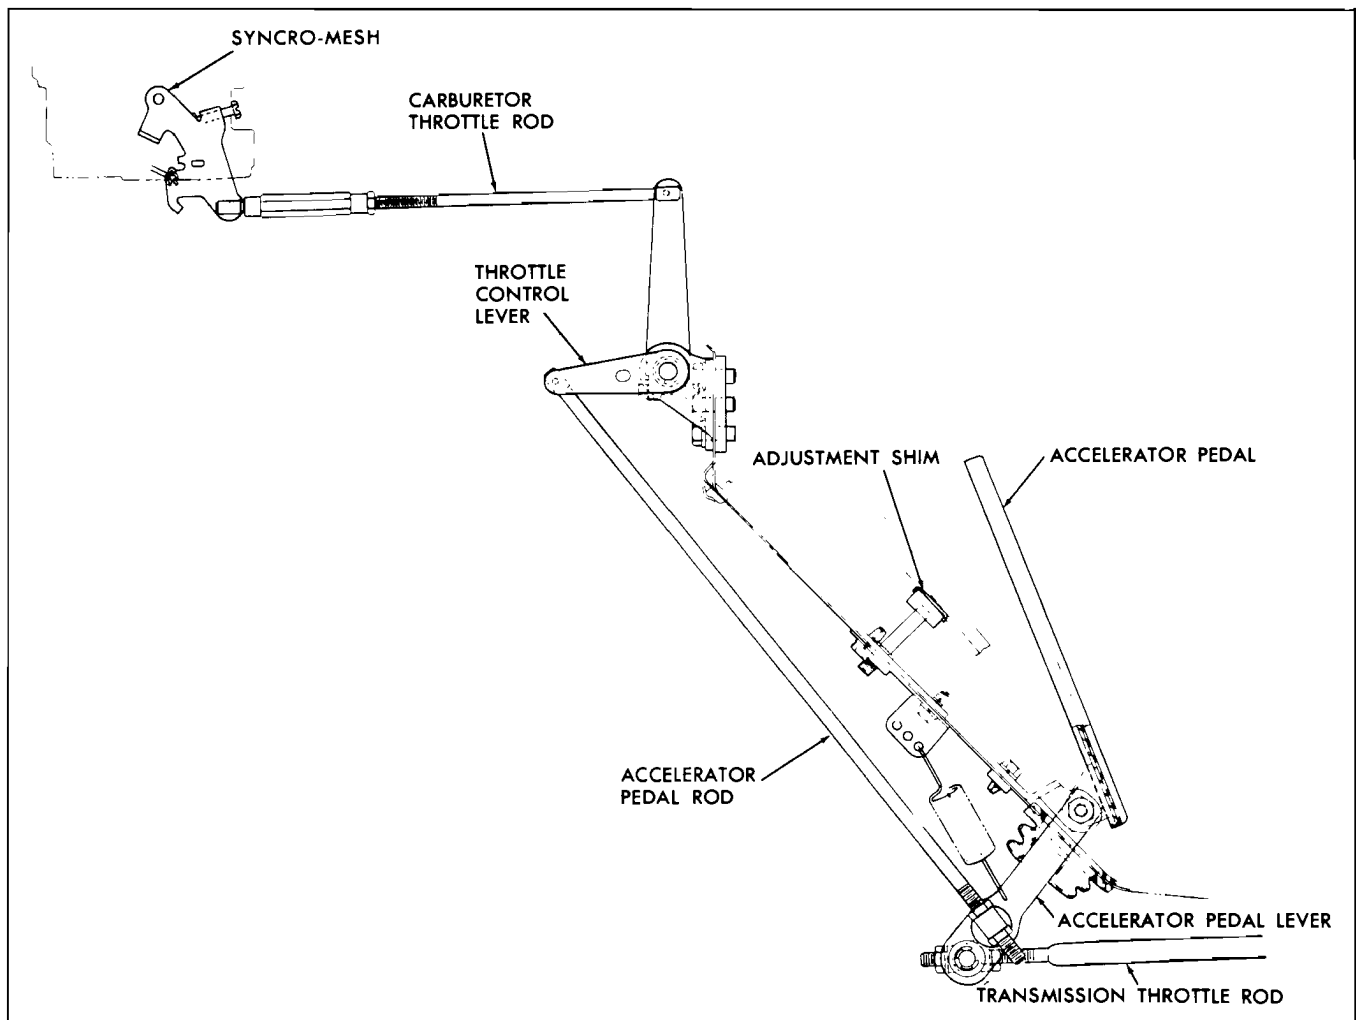

Fig. 6B-3 Eight Cylinder Accelerator Linkage
2. Position .060" shim over top of accelerator pedal stop as shown in Fig. 6B-2.
5. On four cylinder engine equipped models (Fig. 6B-2), proceed as follows: